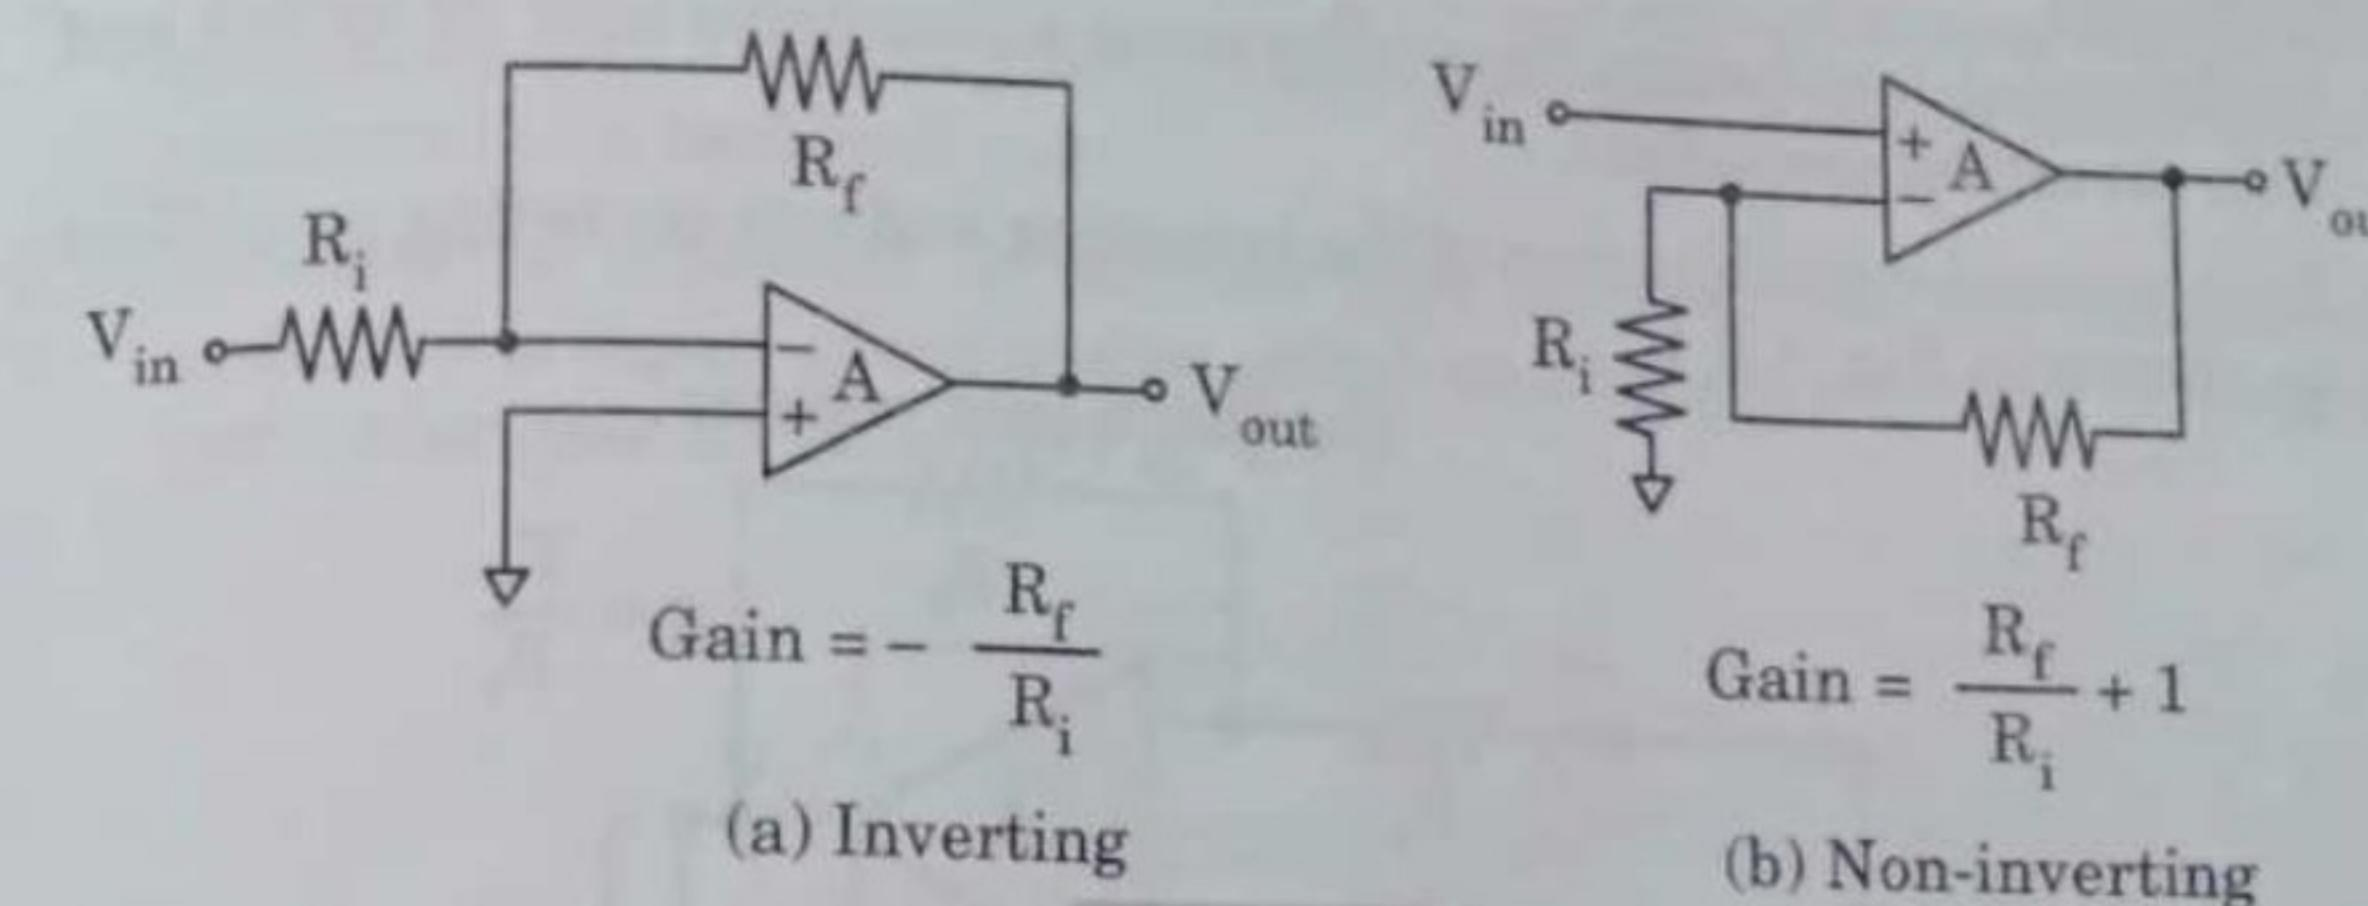

Fig. 4.7.1
6. Most operational amplifier stages are called inverting or non-inverting as shown in Fig. 4.7.1.